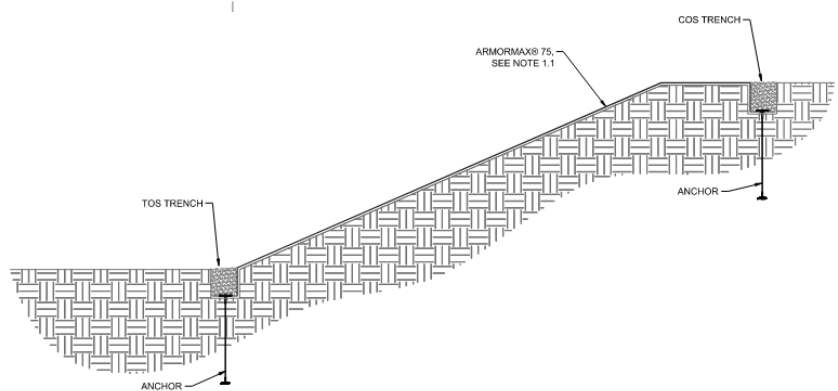

Figure 12: Crest of Slope (COS) Trench and Toe of Slope (TOS) Trench Complete
1. Begin the **PROPEX** Armormax laydown process by starting with the downstream / downwind end of the site. To ensure proper anchoring of the overlapped areas the proceeding roll width must be laid out before the current roll width can be anchored with exception to the final roll width. For straight sections of a slope, the HPTRM panel lengths should be long enough to construct COS and TOS trenches while also covering the surface of the slope being armored (Figure 12). Panel edges should rest approximately perpendicular to the slope center line. For best results, panels of the HPTRM should be continuous and free from seams or roll end overlaps that are parallel to the centerline of the slope. Panel edge overlapping should follow a pattern of placing each proceeding panel's edge overtop the previous panel edge, shingling the panels in the direction of the water flow or prevailing wind.
7. Secure **PROPEX** Armormax with pins and anchors in the TOS trench. Suggested placement of pins and anchors for the TOS trench is along the bottom of the trench with pins on 12 in (300 mm) centers in between anchors on 4 ft (1.2 m) centers (Figure 12).
8. Backfill and compact the TOS trench. (Figure 12)